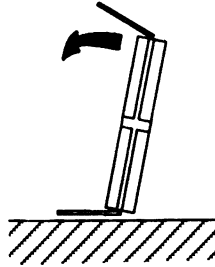

Figure 9-8 Straightening the Pins on the PROM Component
1. Examine the pins on the *original* PROM component (the PROM component you removed from the *failed* system board) to see if they are straight as shown in Figure 9-8. If they are spread too far apart or angled incorrectly as shown in Figure 9-8, you must straighten the pins as follows.
Lay the PROM component down on one side on a table, and carefully roll the component to bend the pins into line as shown in Figure 9-8. Once the pins are in line on one side, repeat this procedure with the other side of the component.